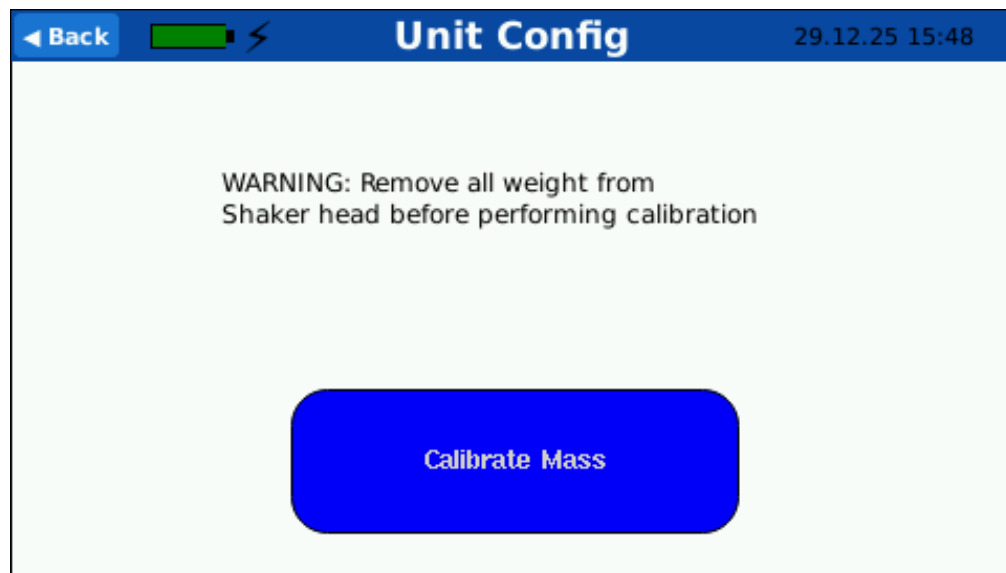

Figure 30
1. On the Unit Configuration screen, select the **Calibrate Mass Load Correction button** to open the Mass Load Correction screen (*Figure 30*).